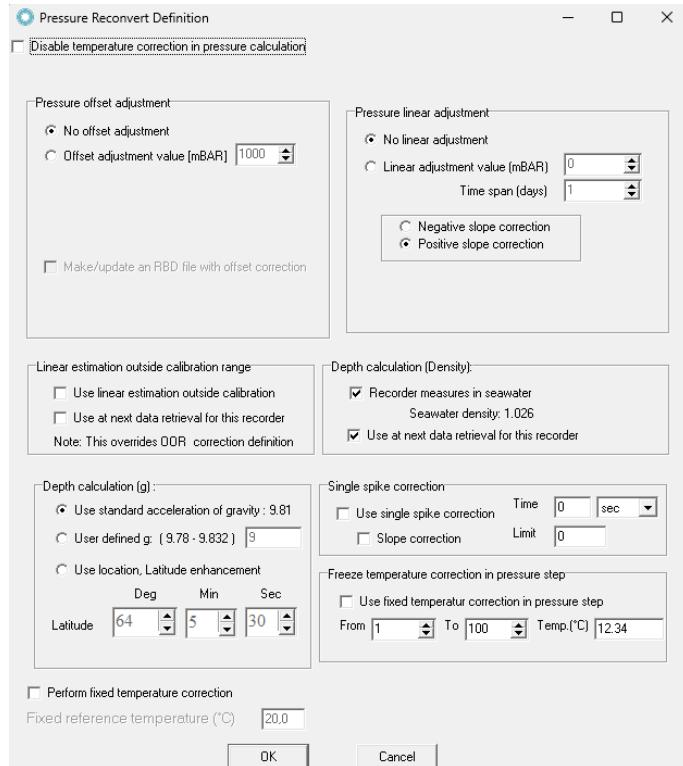

Figure 9.3: Pressure Reconversion menu
2. **Linear Adjustment:** Find the offset value after deployment by taking an average of in-air values. After determining the offset value, enter it in the Pressure linear adjustment window, shown in Figure 9.3. Input the duration of the measurement period in the 'Time span (days)'. The offset will then be adjusted linearly over this period.
In the **From** field (see Figure 9.3), enter the measurement number when the sensor hit the water, and in the **To** field, enter the number of the measurement when the temperature became stabilized. The temperature value of the latter measurement is entered in the **Temp** field. This fixed value is then used to correct the pressure value.
Enable **Use fixed temperature correction in pressure step**. In the **From** field (see Figure 9.3), enter the measurement number when the sensor hit the water, and in the **To** field, enter the number of the measurement when the temperature became stabilized. In the **Temp** field, enter the temperature value of the last measurement. This fixed value is then used to correct the pressure value when data is reconverted.